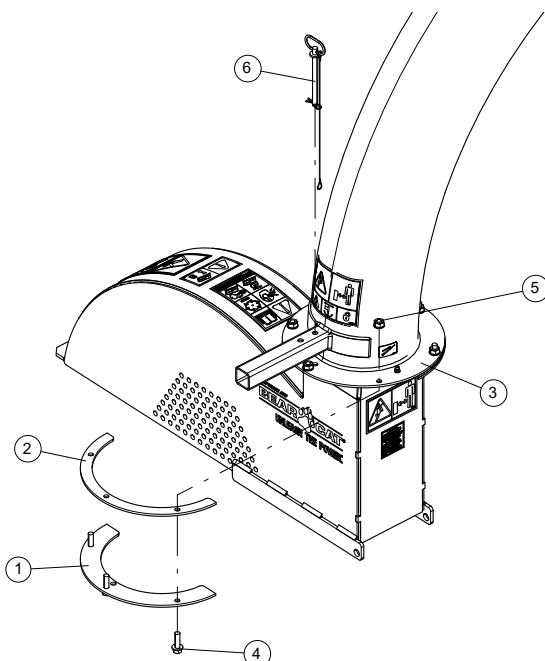

Figure 2.8, Attach Discharge Tube
3. Install the second half of the spacer (2) and clamp ring (1) on the discharge tube with $\frac{3}{8}$ " $\times$ 1-1/4" bolts (4) and nylock nuts (5).
4. Attach lanyard with discharge pin (6) as shown in Figure 2.8. Loop on lanyard installed below nut located under discharge handle.